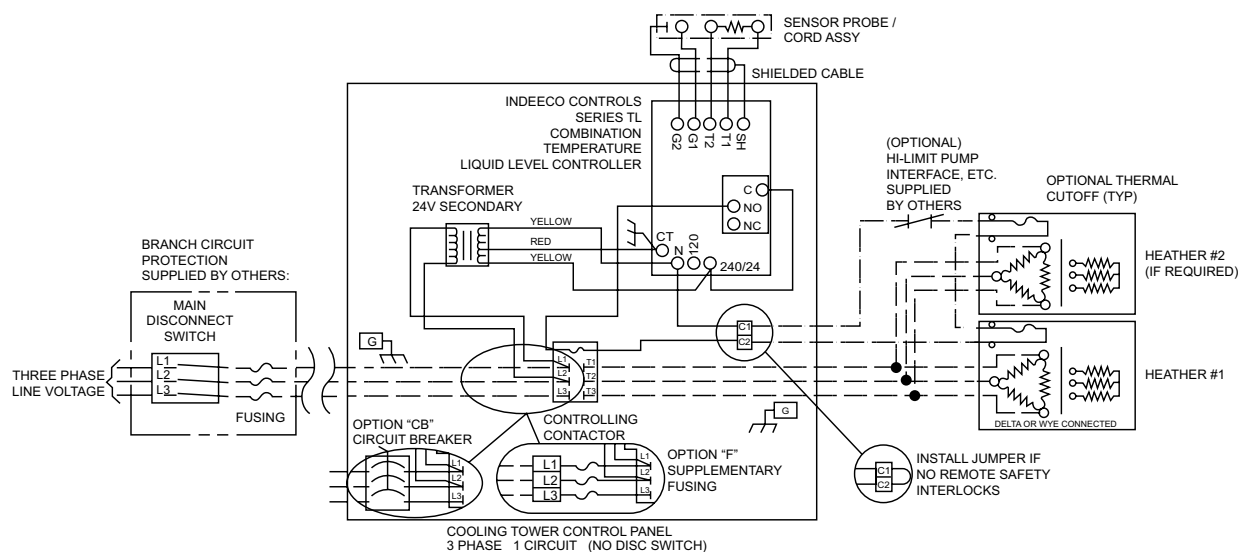

Figure A-149: Basin heater control panel diagram
- Using suitable wire connect heater to panel on “T” terminals, located on right side of contactor in panel (See Figure A-149).
- Using suitable wire from an overload protected disconnect device, connect to the “L” (line) terminals of the panel contactor, located on the left side of contactor in panel (see Figure A-149).